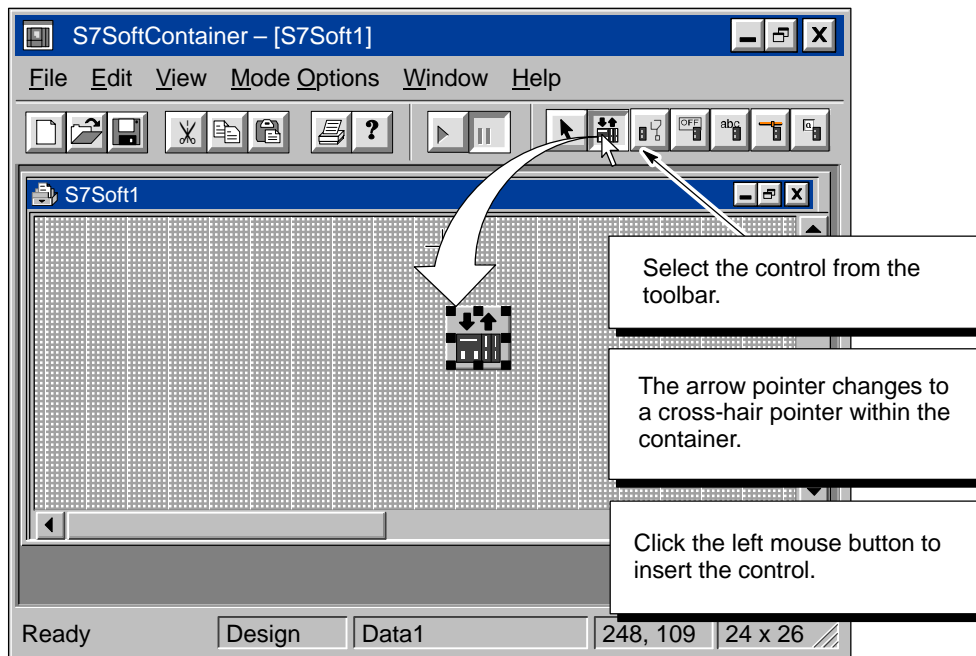

Figure 6-3 Inserting a Control from the Toolbar
Refer to Figure 6-3 and use the following procedure to insert a SIMATIC control into your process form:
1. In the toolbar, select the control to be inserted by clicking on the icon for the control. (Figure 6-3 shows a Data control being inserted into the process form.)